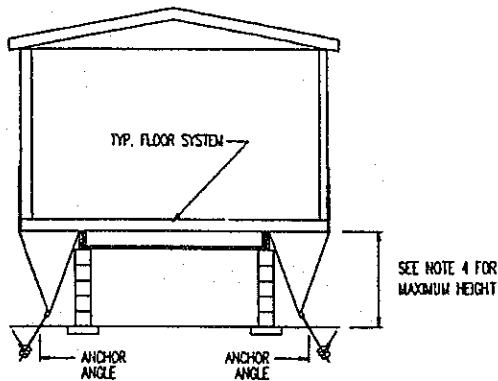

FIGURE 7.0
3. FOR FIGURE 7.0 SEE ALTERNATE TIE-DOWN SPACING TABLES (AD-TD-0035).